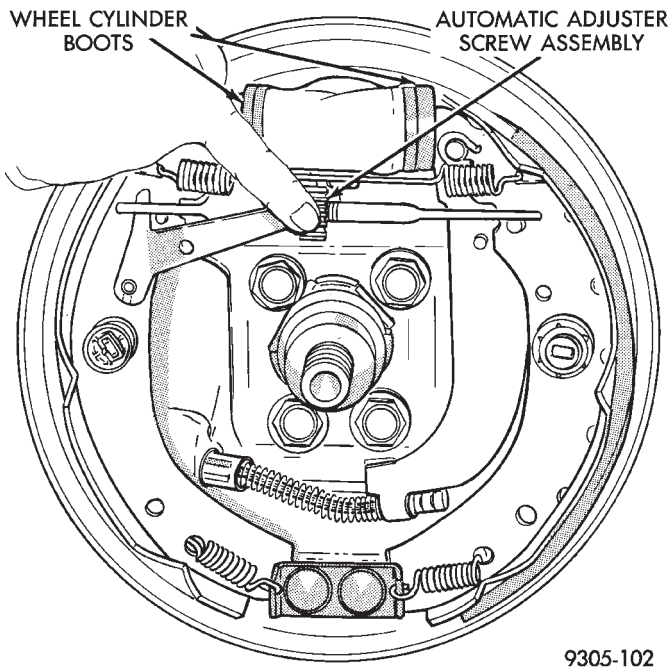

Fig. 68 Expand or Retract Adjuster Screw
- (4) Rotate the automatic adjuster screw assembly so that each shoe assembly moves out far enough to be free from the wheel cylinder boots (Fig. 68).
- (7) Rotate serrated adjuster nut to remove free play from the adjuster assembly (Fig. 68).